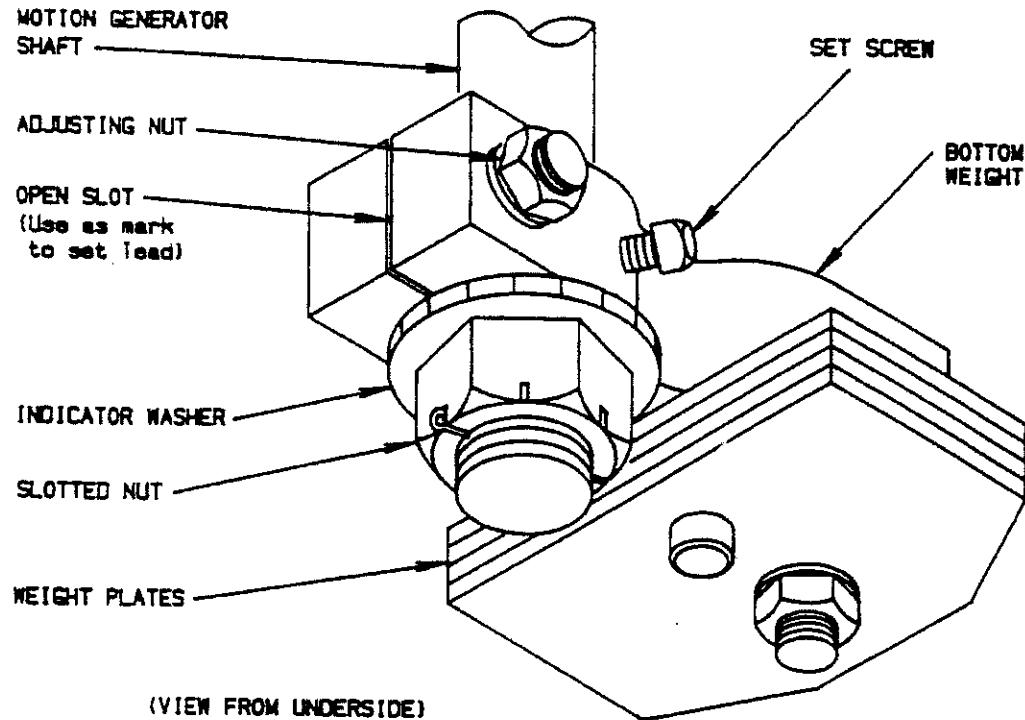

FIGURE 5 BOTTOM WEIGHT ASSEMBLY
- (1) Shut off the power and lock the circuit breaker.
- (2) When all vibration has ceased, open access door in the base.
- (3) Loosen the safety set screw.
- (4) Loosen the adjusting nut.
- (5) Rotate the motion generator shaft inside the bottom weight until the open slot in the bottom weight is aligned with the degree of lead desired on the indicator. (See Figure 5.)
- (6) Tighten the adjusting nut.
- (7) Tighten the safety set screw.
- g. Standard bottom weight arrangements are shown in Figure 5.